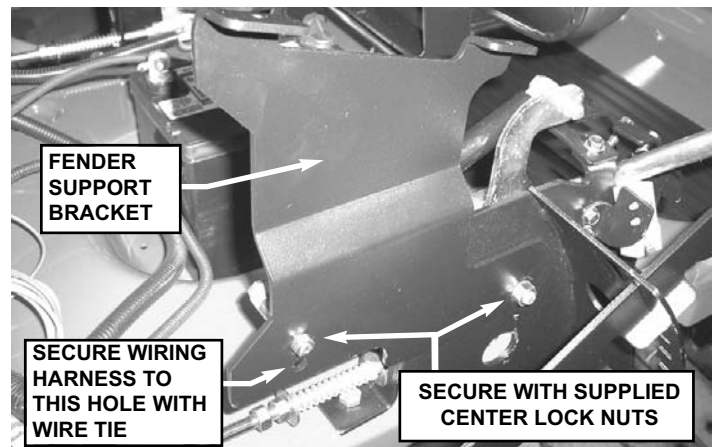

FIGURE 3
**STEP 3:** Install the fender support bracket onto the bolts, securing with the 1/4-20 and 3/8-16 center lock nuts in place of the nylon lock nuts removed in Step 2. Tighten both nuts securely. Also secure the wiring harness to the noted hole with the supplied wire tie, to keep the harness from contacting the drive control rod. See Figure 3.